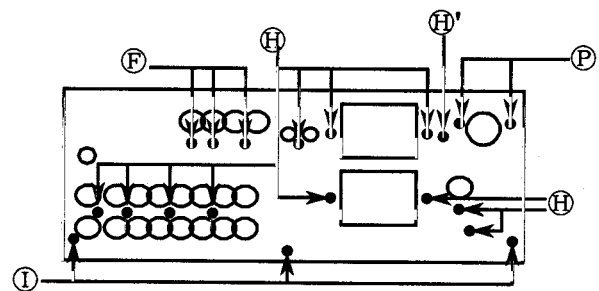

FIG.3 Rear side
(FIG.3)
3. Remove 3 screws **L**.(FIG.3)